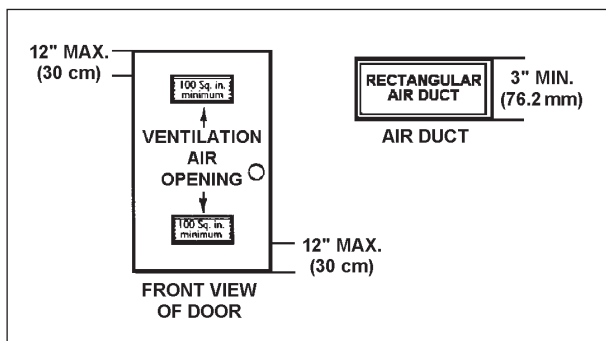

FIGURE 4.
**A. ALL AIR FROM INSIDE BUILDINGS:** (See Figures 4 and 5)